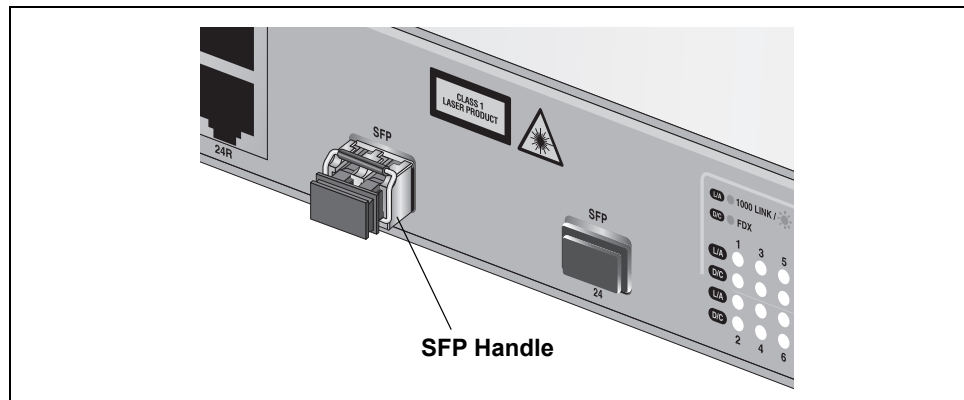

Figure 23. Positioning the SFP Handle in the Upright Position
5. Verify that the handle on the SFP transceiver is in the upright position, as shown in Figure 23, to prevent inadvertently removing the transceiver.